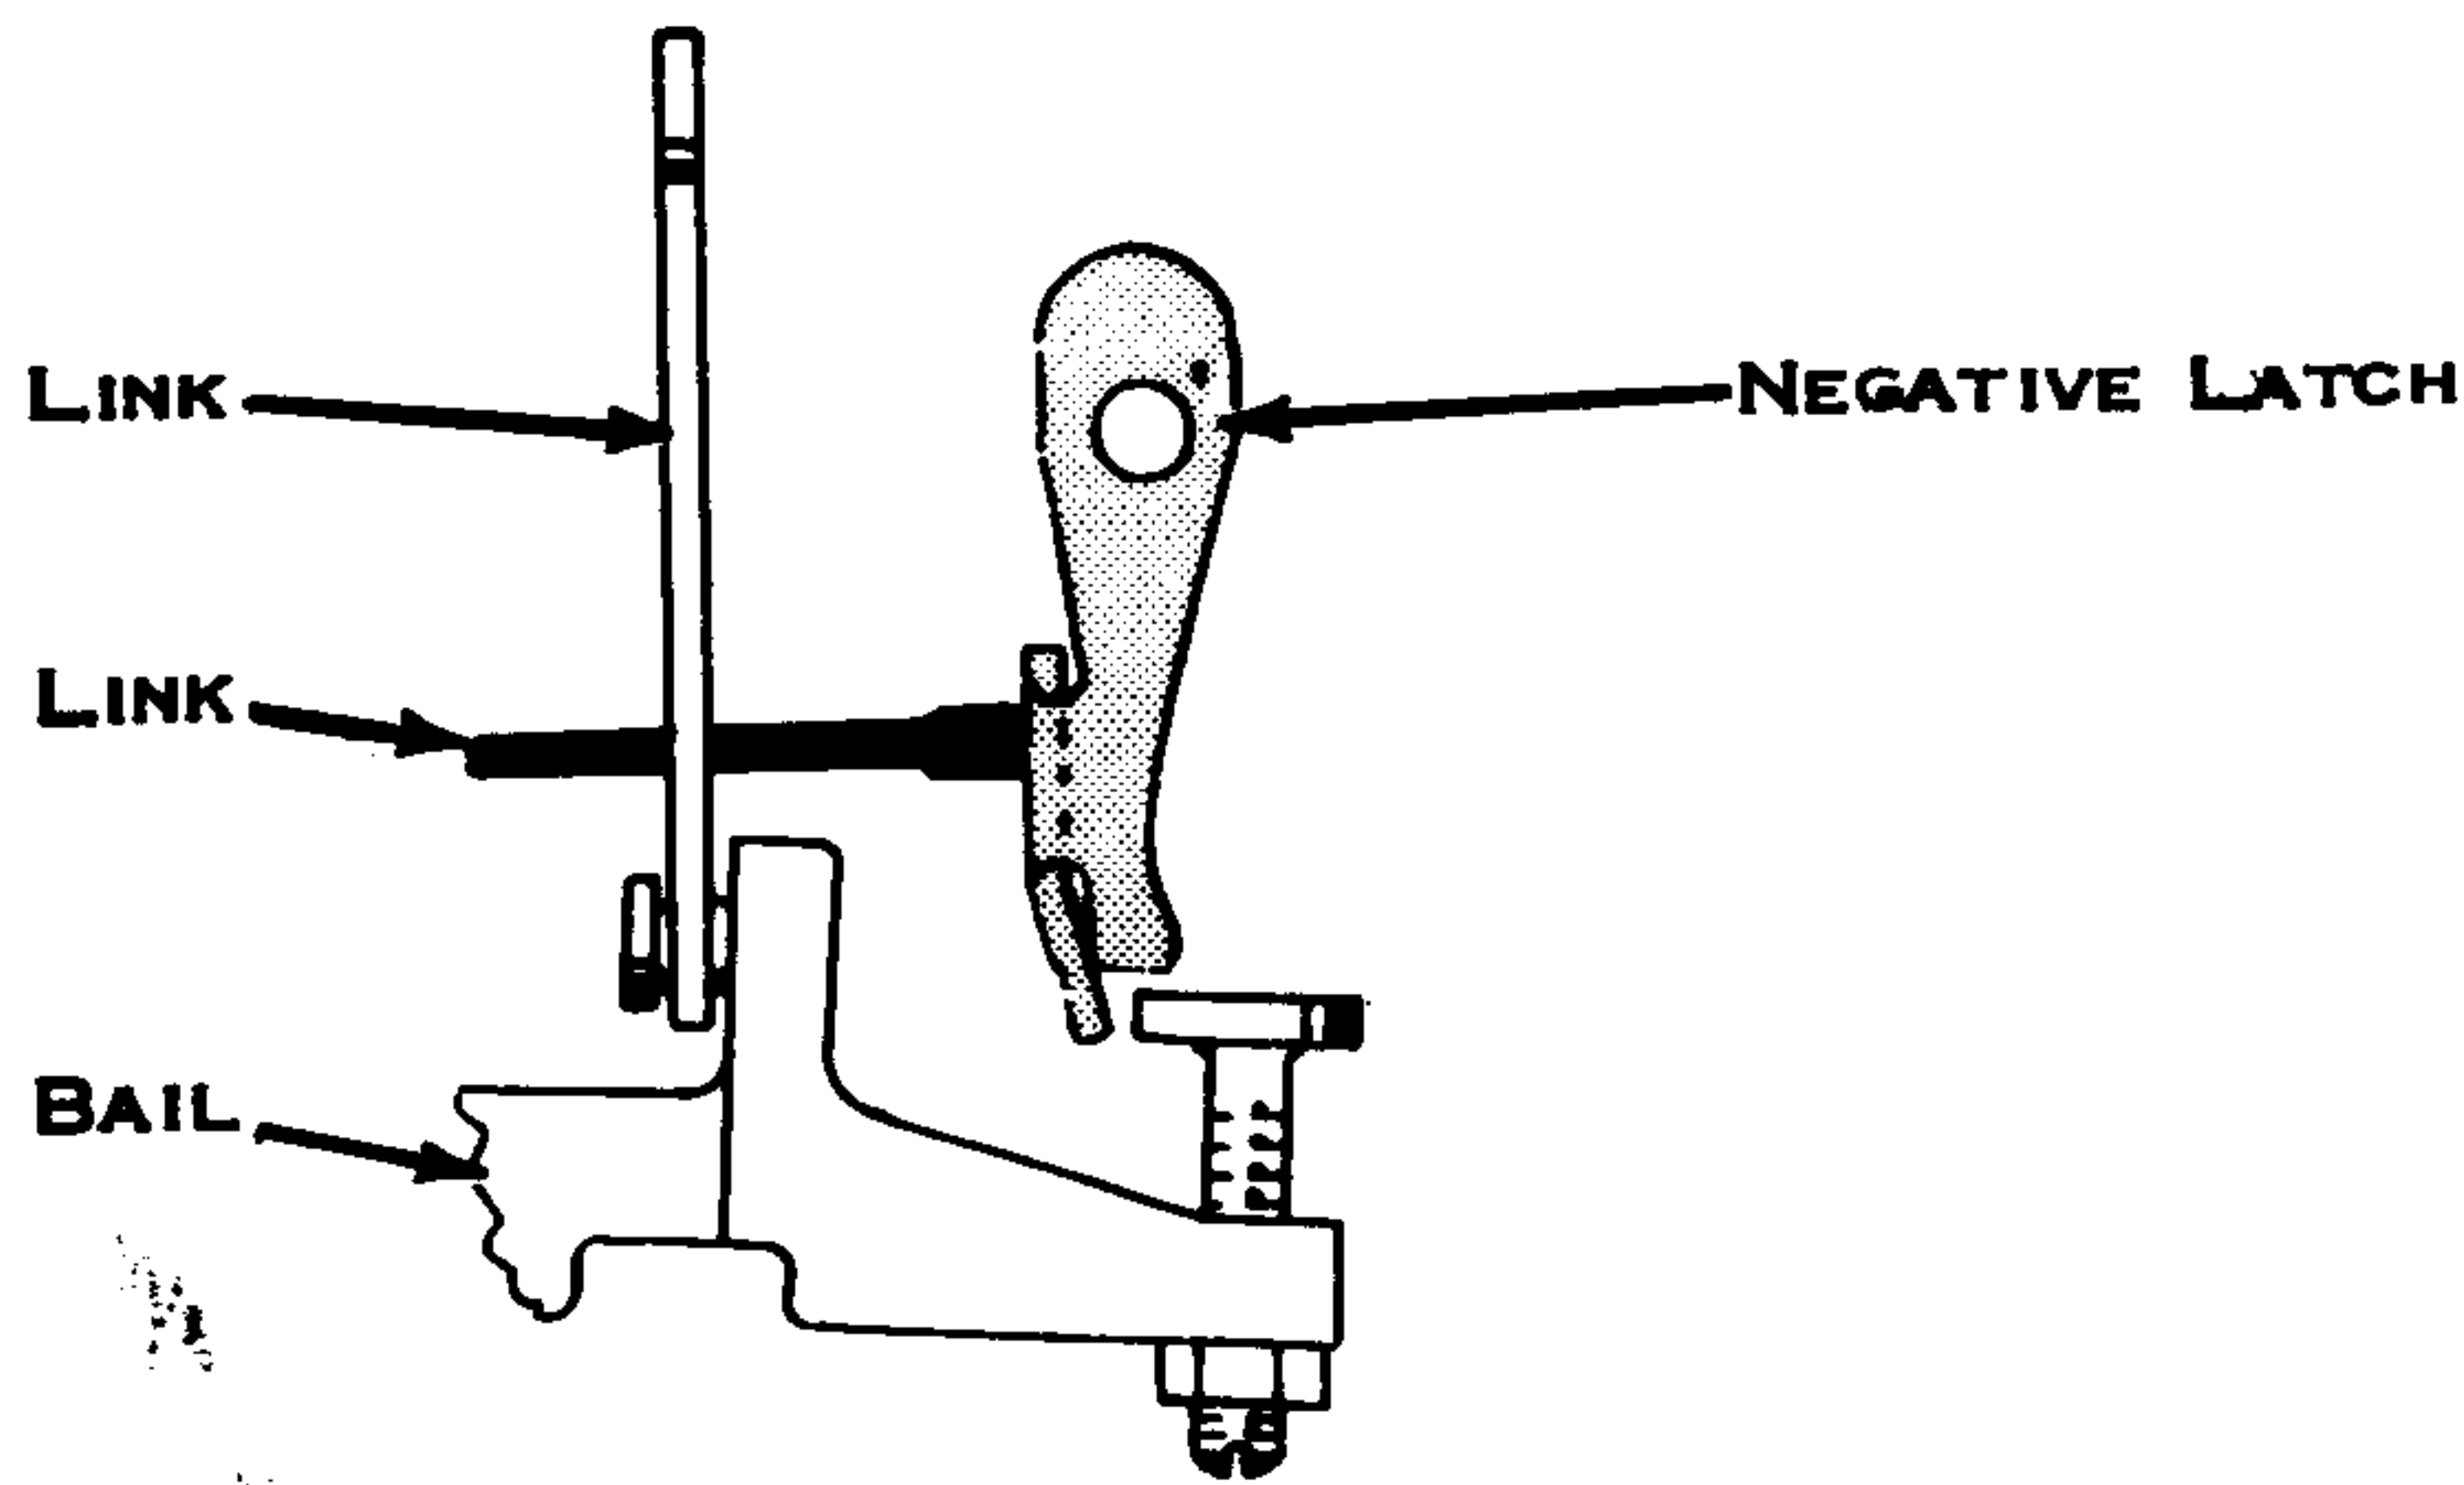

Figure 77. Negative Latch Clearance
3. Negative Latch Clearance (Fig. 77) - The negative five stop pad screw should be adjusted so that the negative latch resets at the same time as the positive latches.